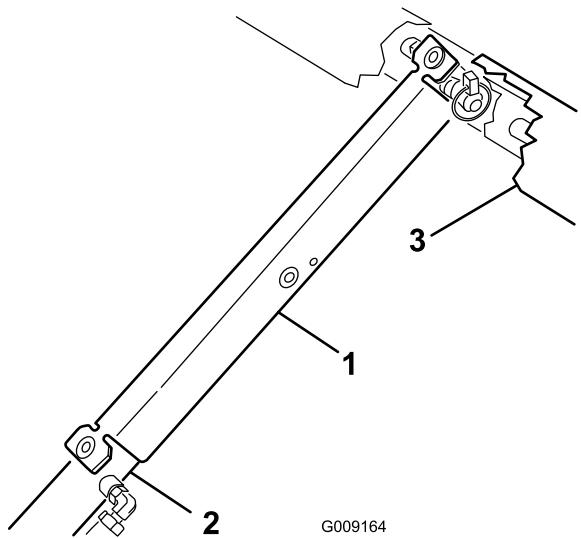

Figure 43
8. Push the bed support onto the cylinder rod, making sure that the support end tabs rest on the end of cylinder barrel and on the cylinder rod end (Figure 43).